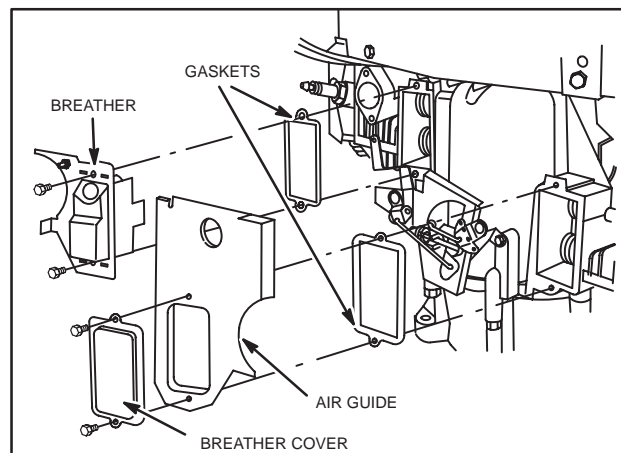
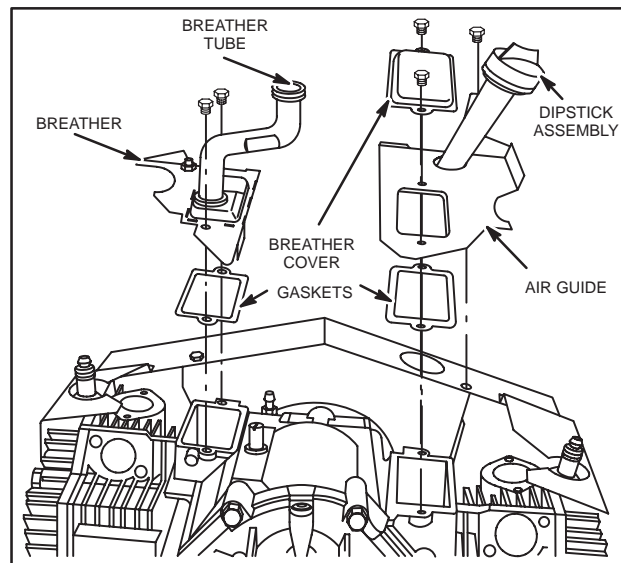

Fig. 5 – Removing Breather Vertical Crankshaft Engines
Fig. 6 – Removing Breather Horizontal Crankshaft Engines – Current Style
- Remove air guide, breather cover and breather(s), Fig. 5 and Fig. 6.
NOTE: Horizontal crankshaft twin cylinder engines manufactured after 91080000 have only one breather valve and breather tube: for #1 cylinder, Fig. 6.